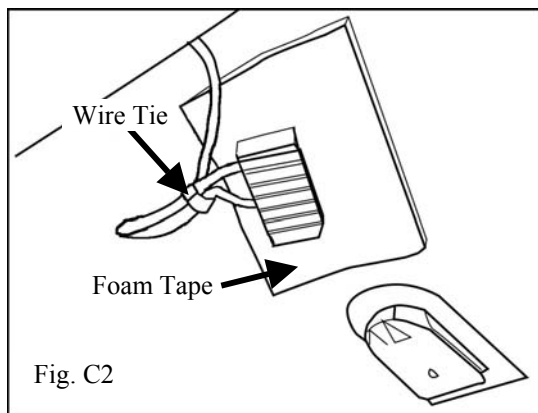

Fig. C2
2. **For factory maplight models only.** Carefully loop the factory harness as shown in Fig. C2.
- i. Bundle harness and secure with wire tie as shown in Fig. C2. Clip off wire tie excess.
- ii. Attach one (1) half-piece of foam tape to connector as shown in Fig C2. Adhesive side towards harness.